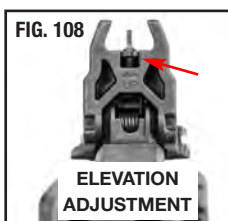

FIG. 108
- The Magpul® MBUS® spring-loaded, folding front sight (FIGURE 108) is adjustable for elevation. It flips up by pressing the tab from either side or by pressing the central area on top. An elevation adjustment tool is included. Use the tool to turn the sight post (clockwise as viewed from top) down to raise the impact of the bullets' on target and counter-clockwise (up) to lower the bullets' impact on target (FIGURE 108).